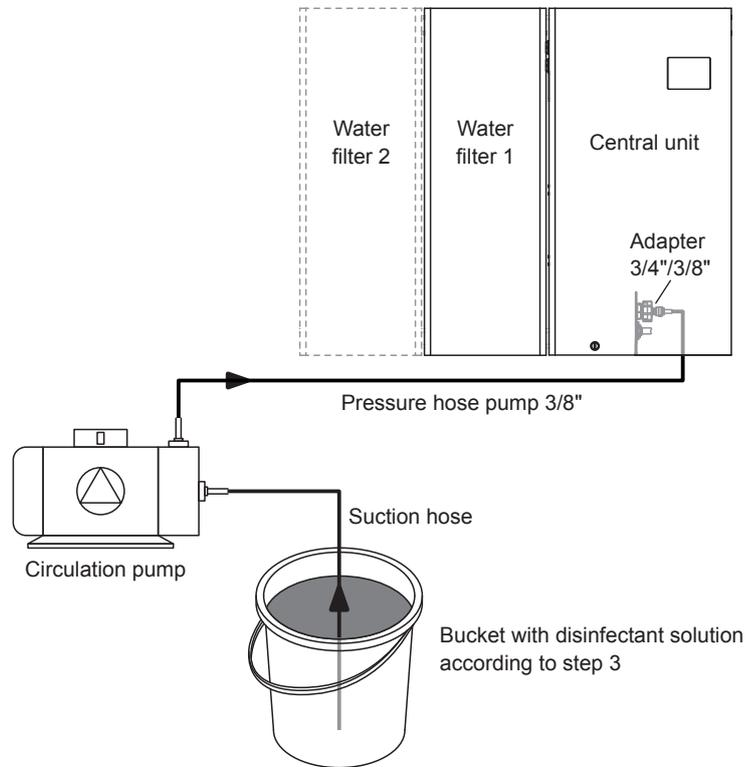

Fig. 71: Schematic diagram for the connection of the circulation pump for disinfection
- Immerse the suction hose of the circulation pump (service accessory) in the bucket with the disinfectant solution and connect the pressure hose to the supply connection of the central unit (see Fig. 71). Then start the circulation pump according to the instructions of the pump.